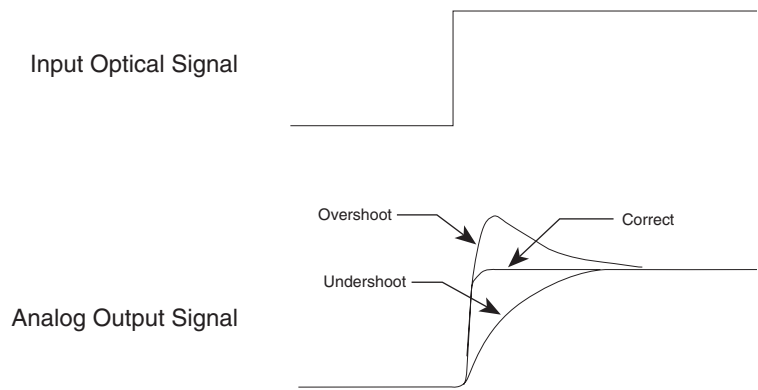

Figure 5—Detector Time Constant Acceleration Adjustment
2. Introduce a step function of optical power to the High-Power detector. You should observe a signal trace similar to Figure 5.